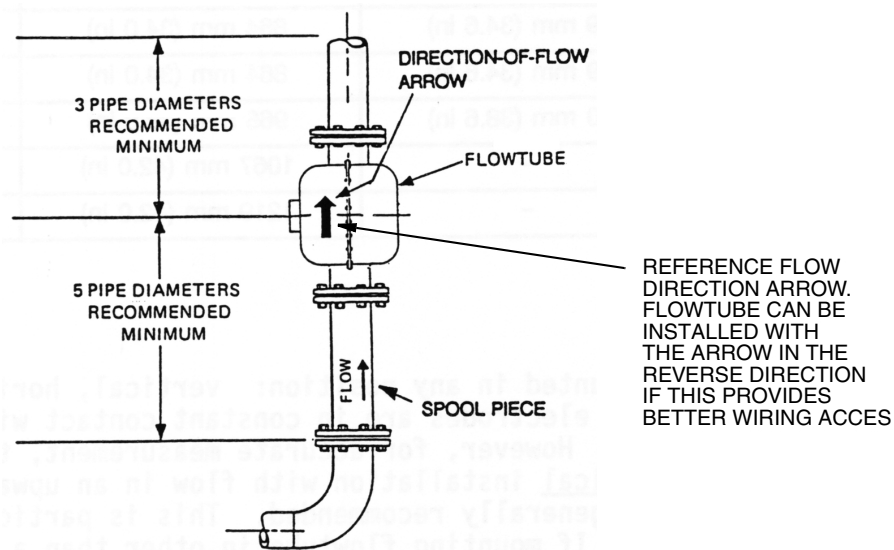

Figure 7. Flanged Body Flowmeter Mounted Vertically
To avoid possible loss of accuracy with a flowtube, it is recommended that the flowtube be connected in a straight section of pipe at least five pipe diameters upstream from the center line of the flowtube and three pipe diameters downstream. The center line of the flowtube is the same location as the electrode location. Note that on small size flowtubes, the recommended straight runs of pipe are included in the overall length of the flowtube. Refer to Figure 7.
- ◆ The magnetic flowtube must be installed so that it remains full of liquid during operation. An example of good orientation of the flowtube is in a vertical pipeline with flow in an upward direction, as shown in Figure 7.
- ◆ The flowtube should have straight, unobstructed piping for a distance of five pipe diameters (5 PDs) upstream and 3 PDs downstream (measured from the center of the flowtube) to ensure optimum performance (see Figure 7). Adjacent process piping should have the same diameter or be slightly larger than the flowtube.
- ◆ Figure 7 also shows a flow direction arrow. However, the tube can be installed in the reverse direction if this orientation provides better wiring access to the connection box (tube performance is the same in both directions). If you do install the tube in the reverse direction, then configure the transmitter flow direction parameter for reverse flow, or reverse the polarity of the electrode wires.